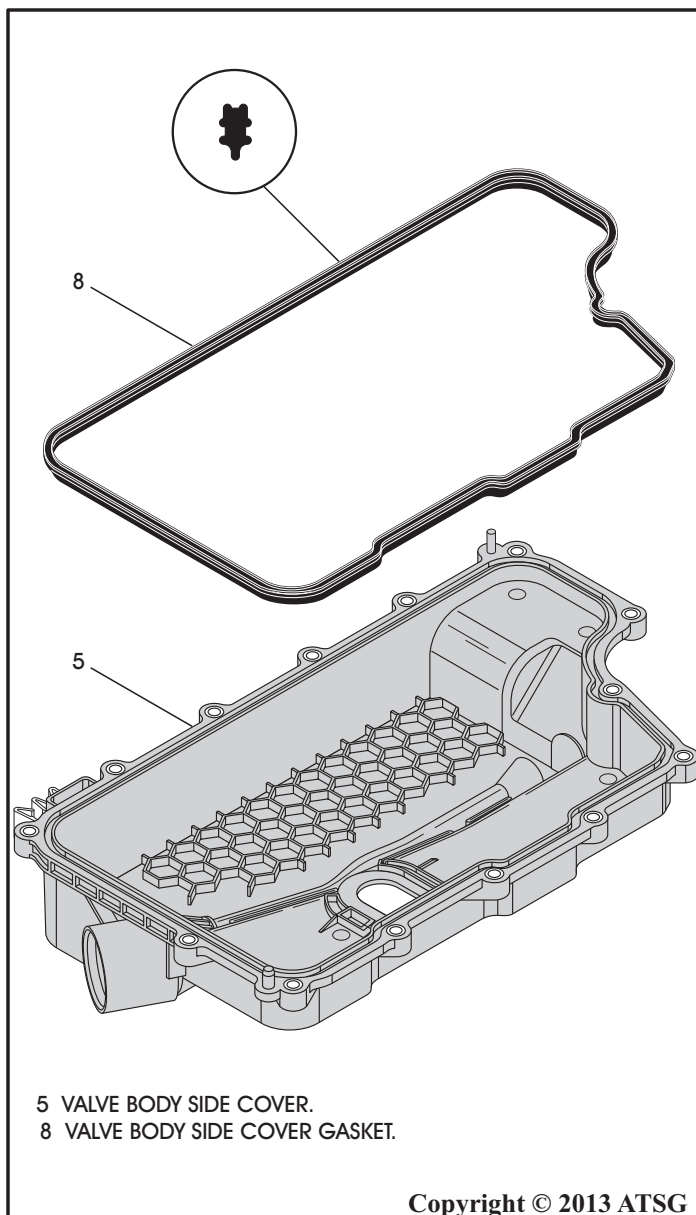

Figure 46
8. Remove and discard the valve body cover gasket as shown in Figure 46.